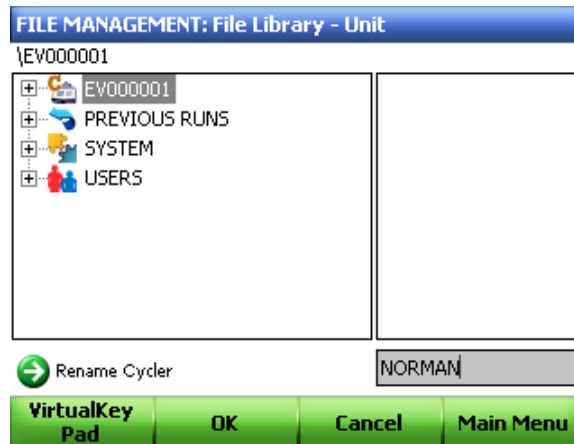

Figure 20. Type in the name of the thermal cycler.
2. Type in a new name in the text box using the alphanumeric keys (Figure 20).